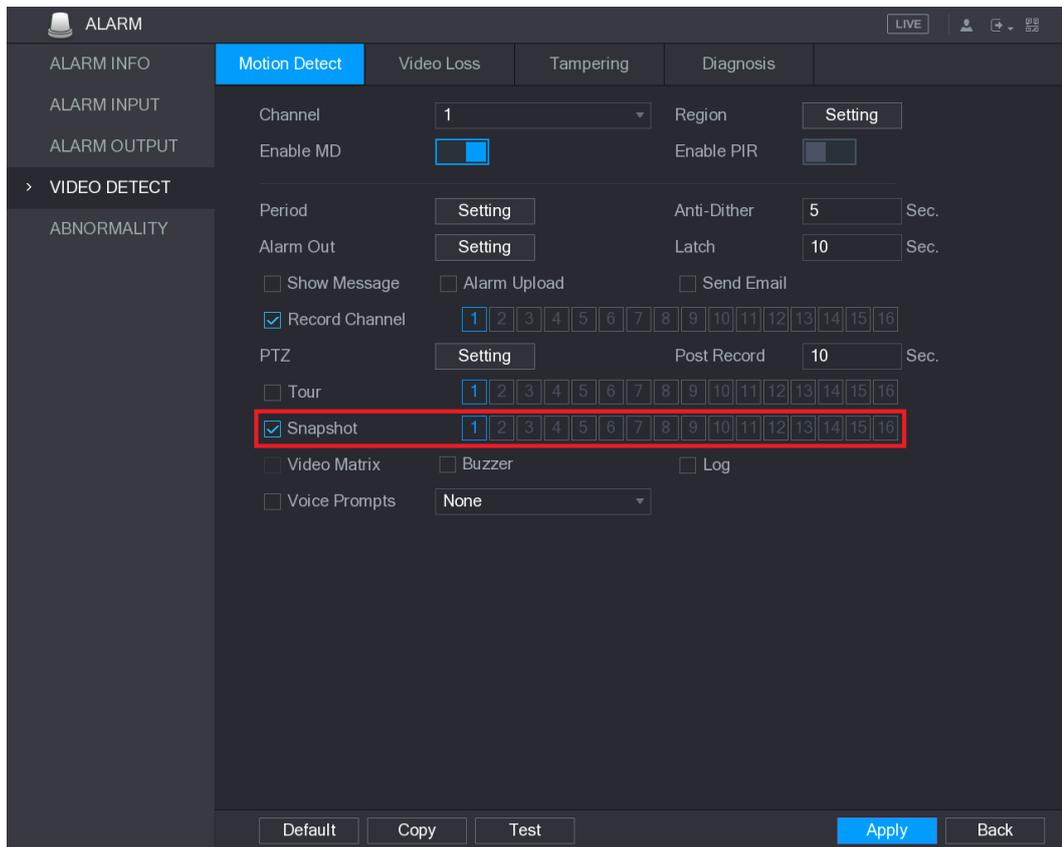

Figure 5-88
**Step 3** Select **Main Menu > ALARM > VIDEO DETECT**, and select the event type to configure, for example, select the **Motion Detect** tab. See Figure 5-88.